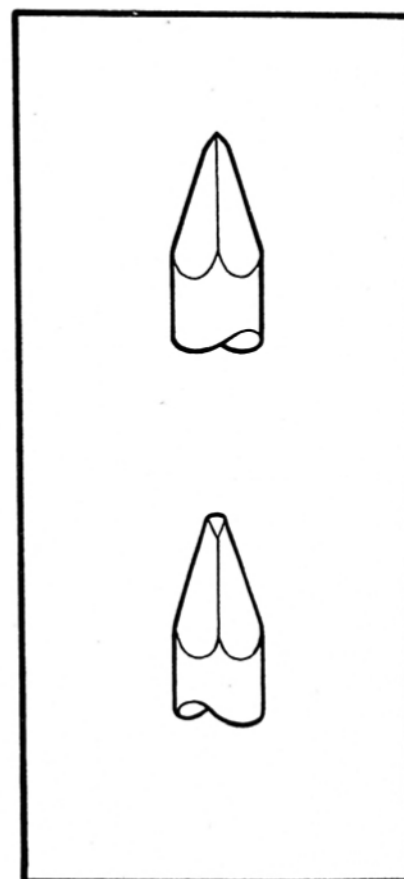

FIG. 29
2. Stone a small radius on two edges (see Fig. 29).